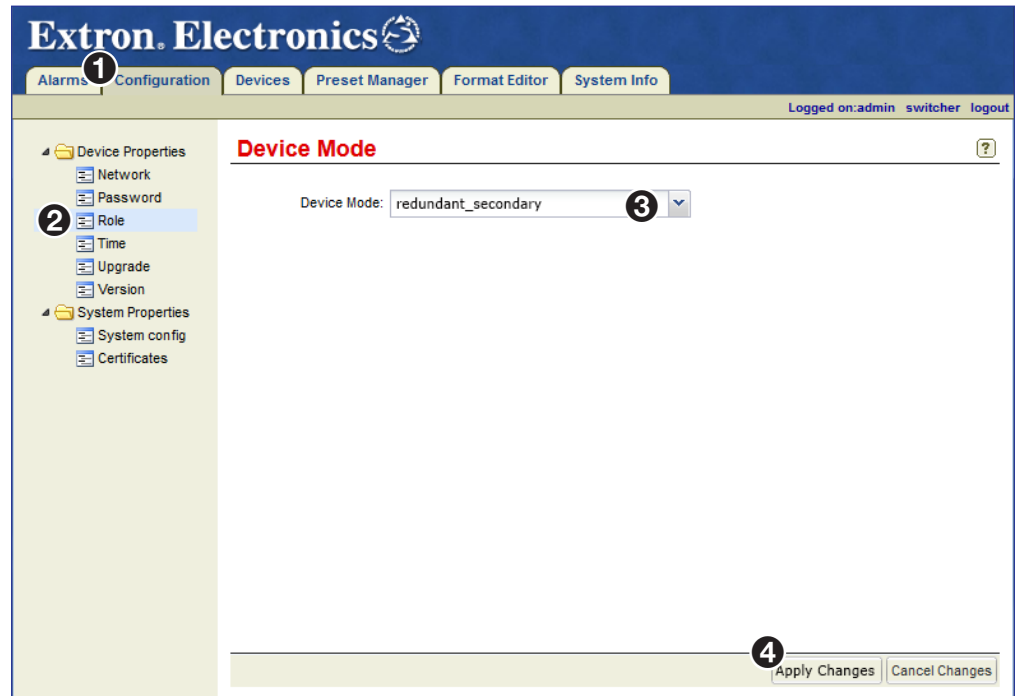

Figure 158. Configuration Page — Redundant Secondary Role Setup
The **Configuration** page opens (see figure 158, ①).